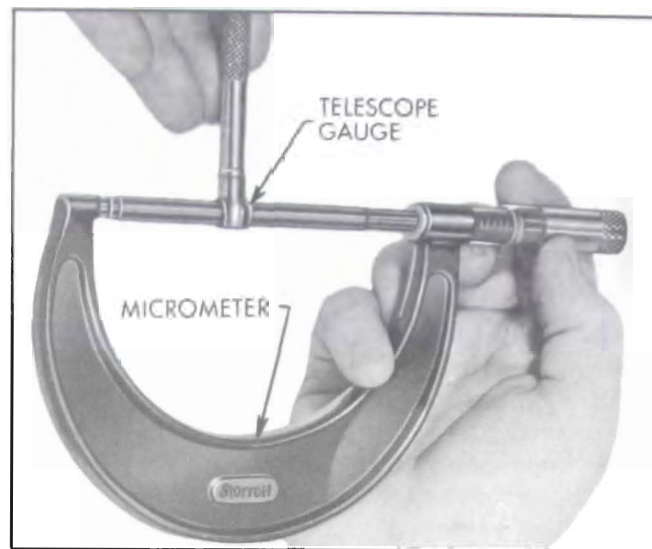

Figure 2-54—Measuring Telescope Gauge
2. Measure the telescope gauge. See Figure 2-54.